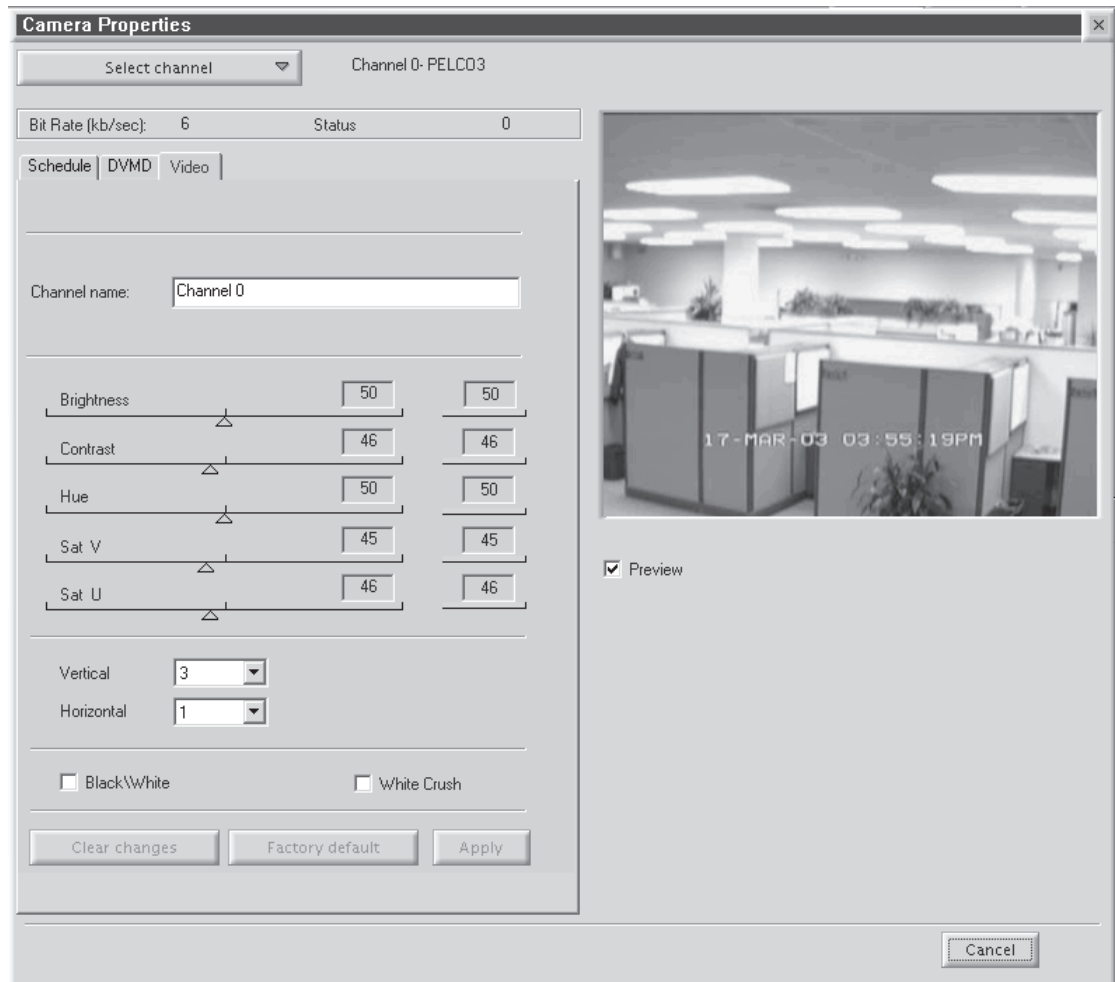

Figure 39. Camera Video Setup Page
1. Click the Video tab. The Video page appears. Refer to Figure 39.